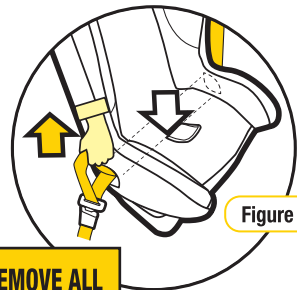

Figure 4
Step 3: Push down on the base of the restraint (with knee or hand) whilst pulling the sash section of the vehicle belt firmly up in direction of the yellow arrow in Figure 4. (This will tighten the lap belt across the restraint base).